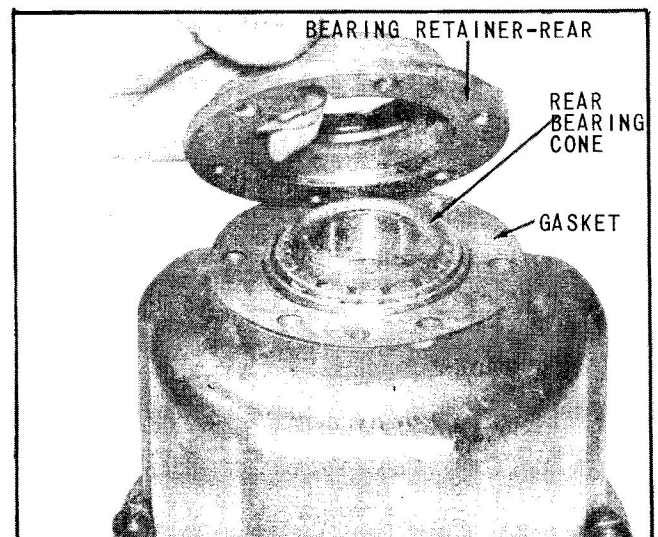

Fig. 30 Remove Bearing Retainer-Rear
8. Remove bearing retainer to reduction housing bolts. Remove bearing retainer - rear, and rear bearing cone, (Fig. 30). Discard retainer gasket.